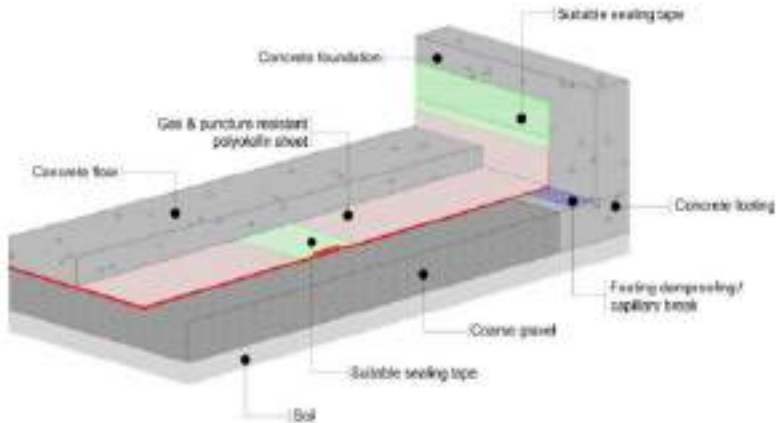

Figure 7.1.4.5.5 — Sealing sub-slab membrane vertically to concrete foundation wall
7.1.4.5.6 The soil gas barrier shall be sealed to the horizontal footings using appropriate sealing tape prior to the concrete slab pour. See Figure 7.1.4.5.6.